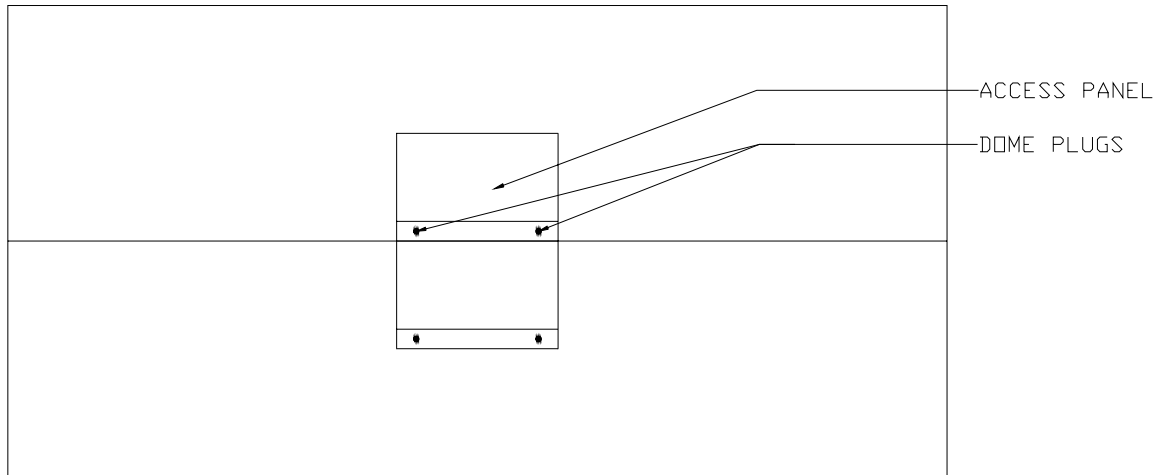

Figure 6 Upper Section Rear Access Panel
1. Remove the rear access panel of the upper scoreboard section and the dome plugs on the plate below the access panel. Figure 6 shows the location of the upper rear access panel and the dome plugs.